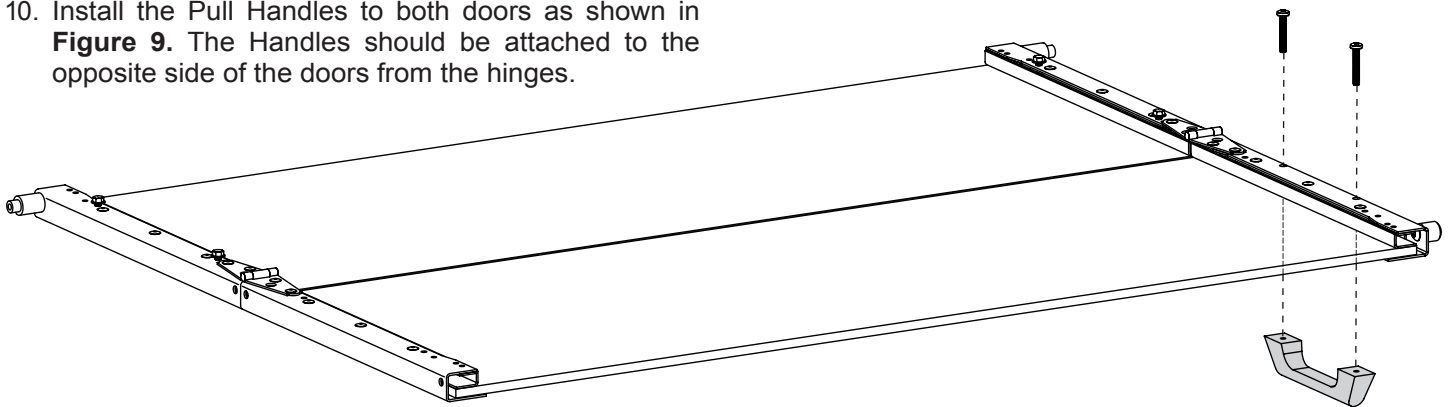

Figure 9
10. Install the Pull Handles to both doors as shown in **Figure 9**. The Handles should be attached to the opposite side of the doors from the hinges.